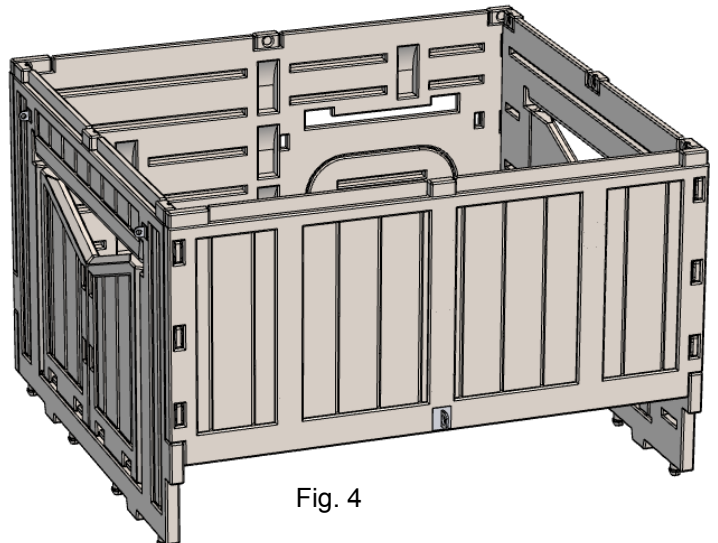

Fig. 4
**Step 4:** Assemble the two Nest Side Walls to the Back Wall by aligning, and then inserting the tabs on the Nest Side Walls into the slots of the Back Wall. (Fig. 4)